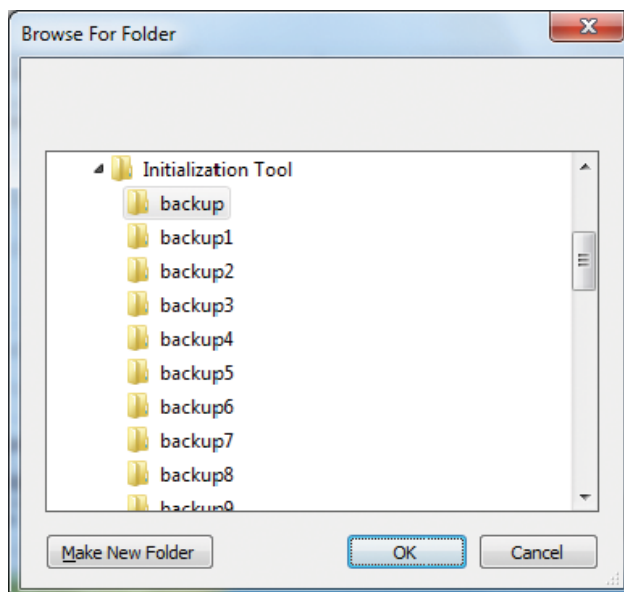

Fig.246 [Browse For Folder] screen
- 3 Specify a backup folder. (Fig.246)**